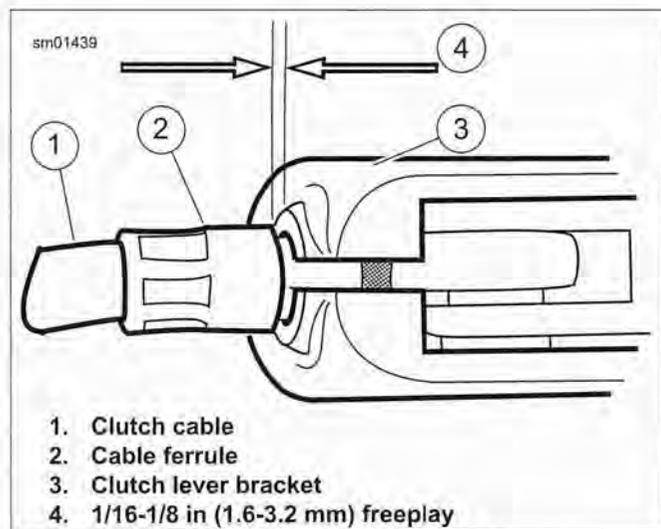

Figure 1-42. Clutch Freeplay Adjustment
2. See Figure 1-42. Pull the clutch cable ferrule (2) away from the clutch lever bracket (3) and measure the freeplay (4).